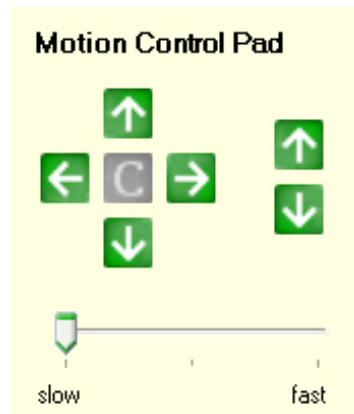

Fig. 13
- » Opens the motion control pad to allow the user to move the plate arm on the X, Y, and Z stages (see figure 13). **Keyboard shortcut - F2**
The hand can be moved manually with the Motion Control Pad (see Fig 13 in previous section). The **left** and **right** arrows on the Control Pad move the stage on the X-Axis. The **up** and **down** arrows (located around the C button with the left/right arrows) moves the stage on the Y-Axis. The right-hand **up** and **down** arrows move the stage on the Z-Axis. The slider on the bottom sets the movement speed from slow to fast. **Note: Care should be taken when manually driving the stage not to impact the chip.**